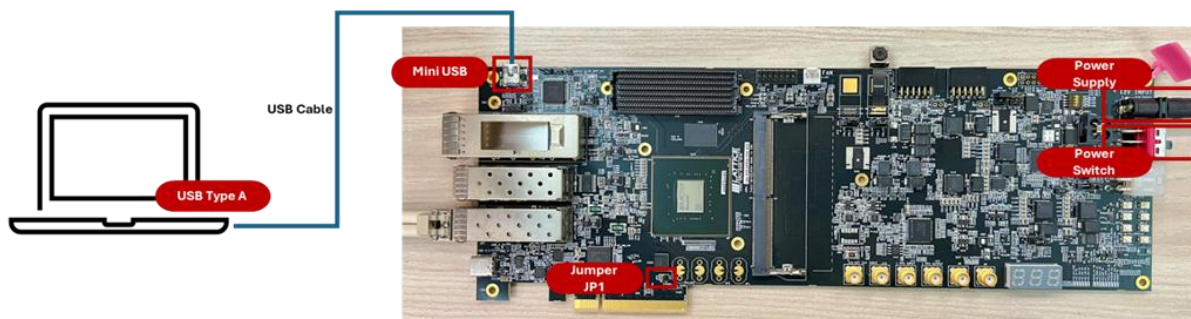

Figure 6.13. Hardware Setup for Bit File Programming
1. Connect the board to the PC using a mini-USB Type-A cable, as shown in Figure 6.13. Ensure jumper **JP1** is properly connected. Connect the power adapter to the board power port and turn the switch **ON**. The board is now ready to be programmed.